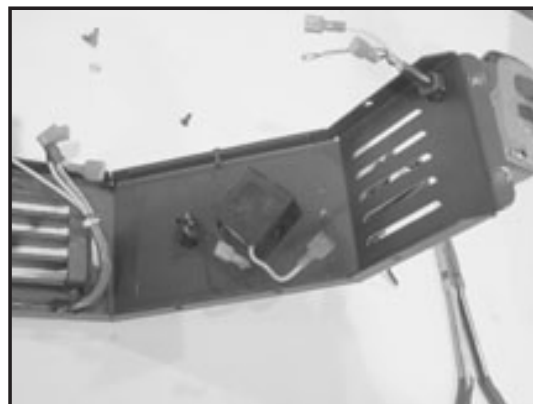

Figure 42.2
3. Disconnect all the wires from the switch, rheostat and power cord. **Figure 42.2.**